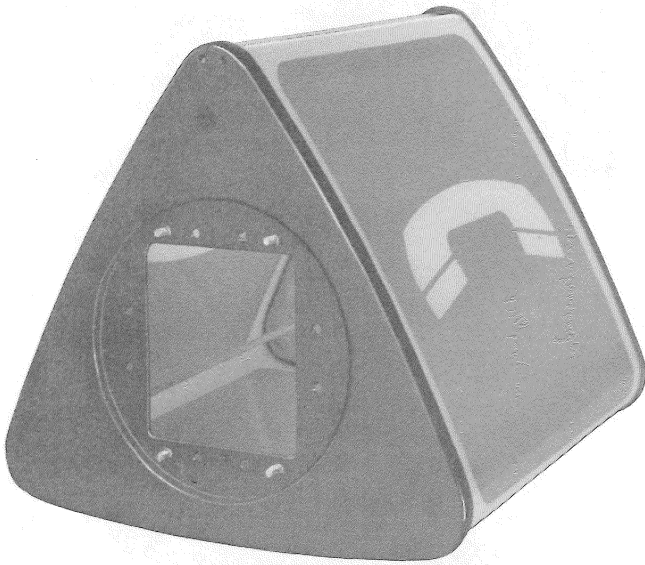
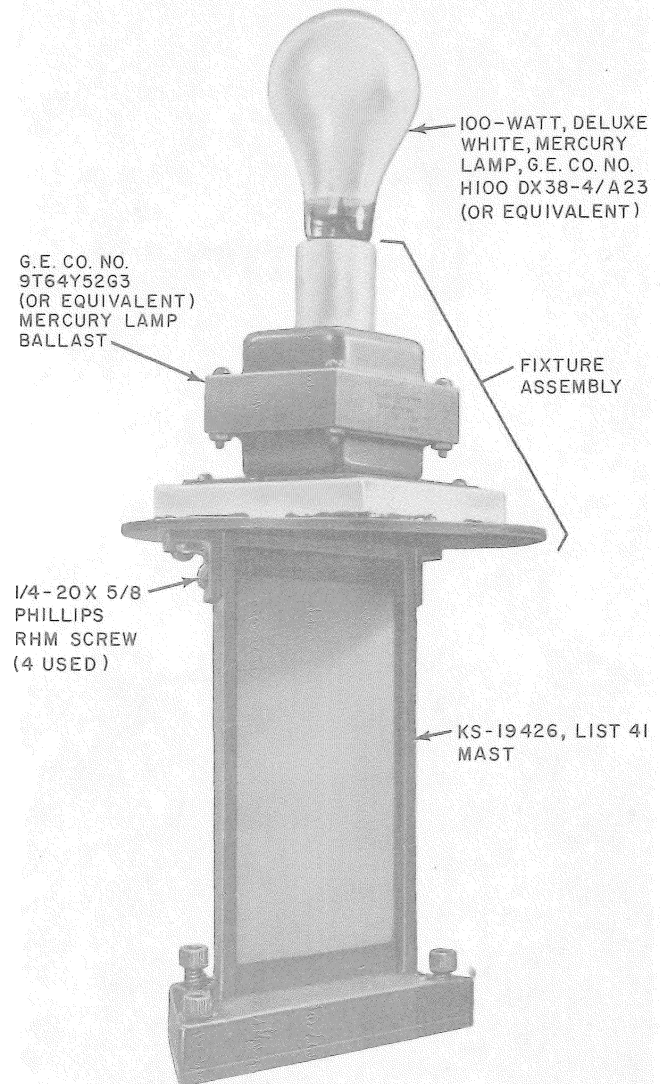

Fig. 16—KS-20031, List 2 Lens Assembly—Bottom View
Fig. 17—KS-19426, List 41 Mast with Fixture Assembly and Lamp Installed
- (a) Consists of a KS-20031, List 2 acrylic plastic lens assembly (Fig. 16) and fixture assembly (Fig. 17).
Note: The List 2 lens assembly (Fig. 16) must be removed from the fixture assembly (Fig. 17) before installation.
- (3) Install fixture assembly to mast using the four 1/4-20 by 5/8 screws (Fig. 17).
- (4) Have local electrician connect the fixture to junction box below KS-19426 housing with